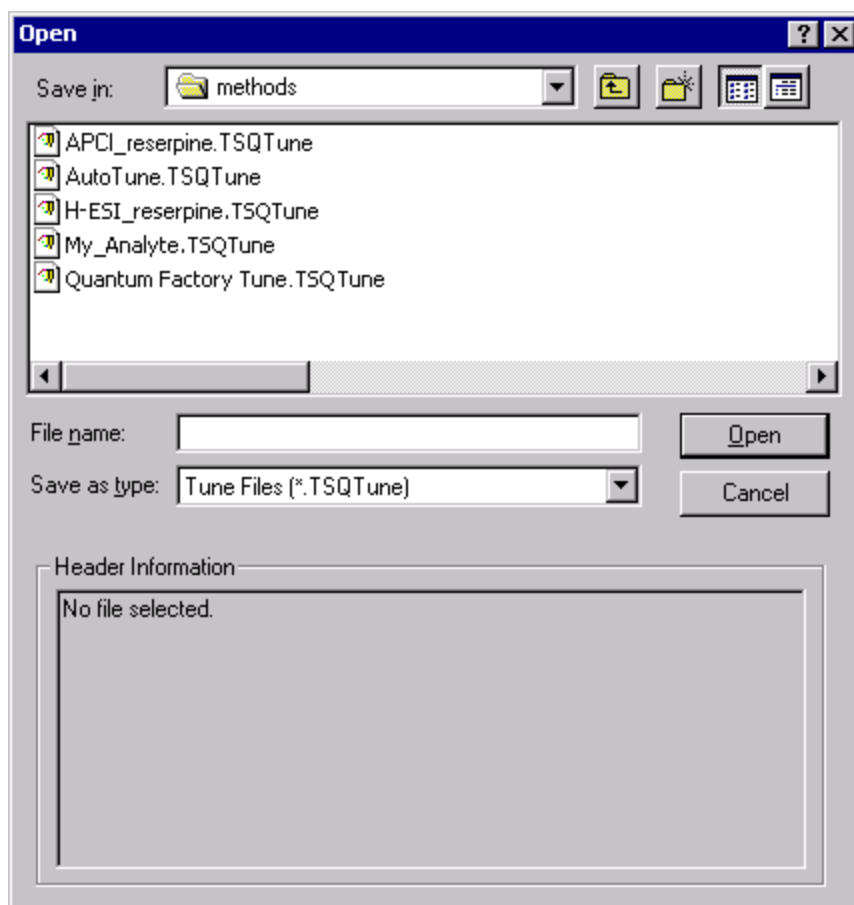

Figure 7-5. Open Tune Method dialog box
- a. On the File / Display toolbar, click on the Open File button to display the Open dialog box. See Figure 7-5.